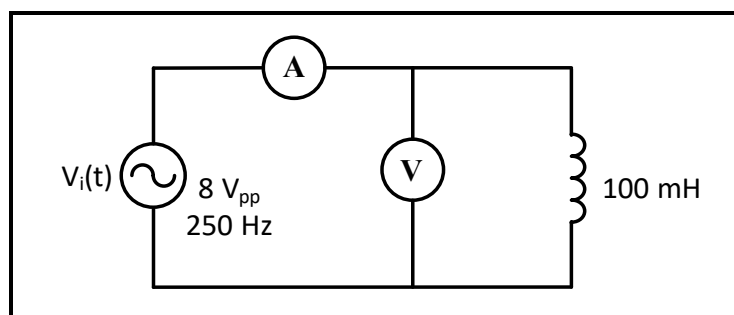

Figure 7.9
3. Connect the circuit in Figure 7.9, set V_{in} to sinusoidal voltage at $8 V_{PP}$, $f = 250$ Hz.
a. Repeat steps (a) and (b) in (1) for the circuit of Figure 7.9 record results in Table 7.3.